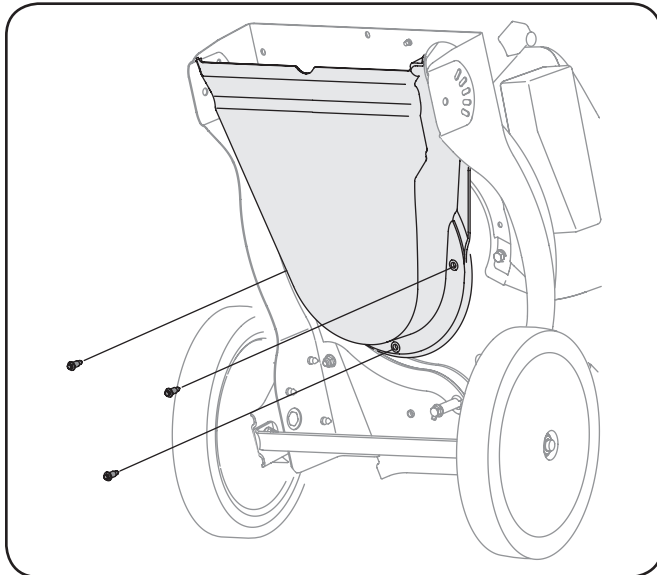

Figure 7-4
7. Carefully tilt and support the unit up to provide access underneath to the nozzle mounting hardware and impeller. Remove the three shoulder bolts securing the black plastic lower flail housing to the lower housing. Refer to Figure 7-4.